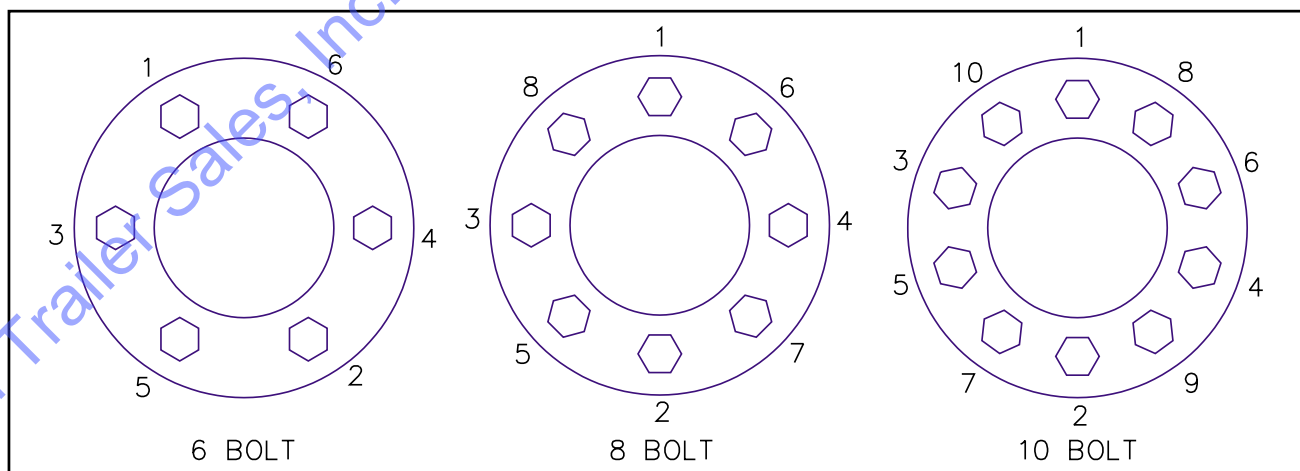

Figure 4-20 Stud Tightening Sequence
c. Install the inner capnuts on the studs and tighten to fifty foot-pounds using the sequence illustrated in **Figure 4-20**. Make certain that the left-handed threads are installed on the driver side of the vehicle and the right-handed threads are installed on the curbside of the vehicle.
d. Tighten the inner capnuts to full torque of 450 to 500 foot-pounds using the sequence shown in **Figure 4-20**.
- f. Install the outer capnuts and tighten to 50 foot-pounds using the sequence in **Figure 4-20**. Then tighten to full torque of 450 to 500 foot-pounds using the same sequence.